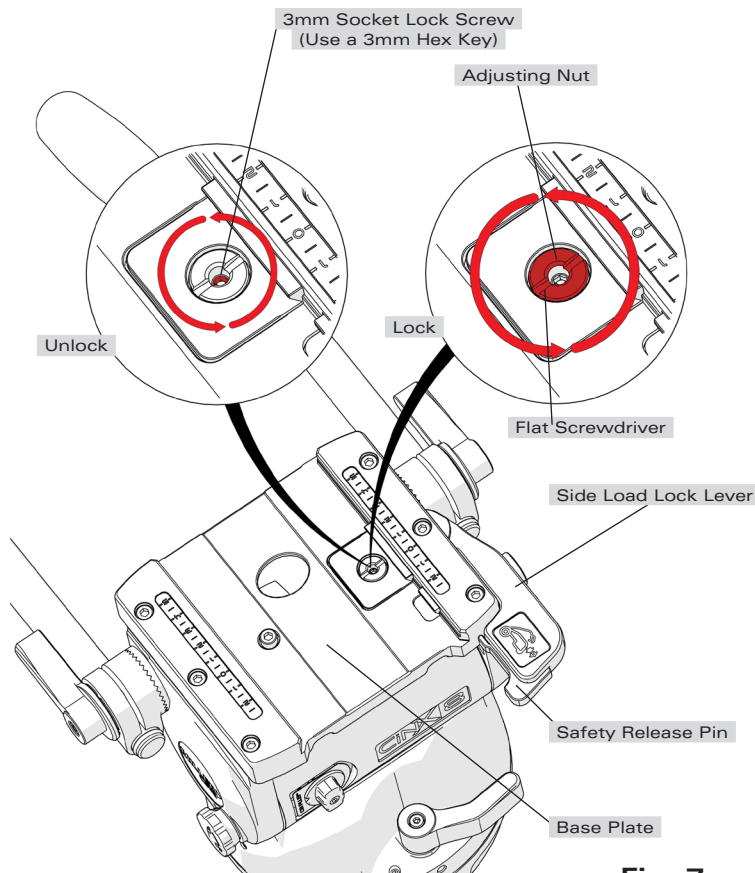

Fig. 7
- 3.4 Using a 3 mm Hex key unlock the LOCK SOCKET SCREW (fig. 7), then using a broad flat screw driver turn the ADJUSTING NUT (fig. 7) in the direction shown by 1/8 of a turn and re-check step 3.2, repeat 3.4 if necessary. When adjusted correctly, the SIDE LOAD LOCK LEVER will be smooth to operate and require modest effort to lock the CAMERA PLATE (fig. 8).